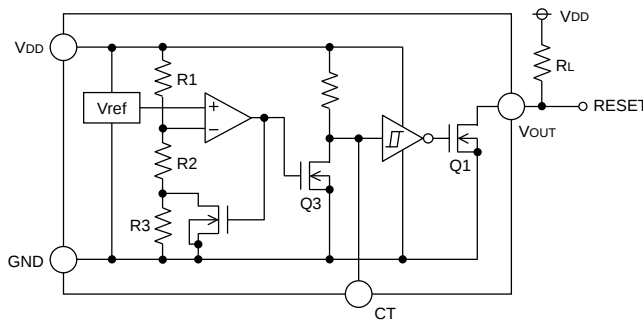
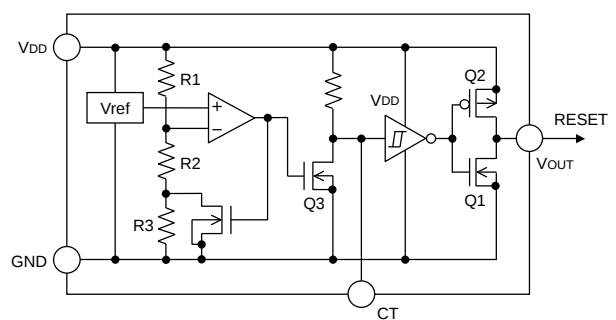

Fig.15 (BD52□□ Type Internal Block Diagram)
Fig.16 (BD53□□ Type Internal Block Diagram)
For both the open drain type (Fig.15) and the CMOS output type (Fig.16), the detection and release voltages are used as threshold voltages. When the voltage applied to the V_{DD} pins reaches the applicable threshold voltage, the V_{OUT} terminal voltage switches from either "High" to "Low" or from "Low" to "High". Because the BD52□□G/FVE series uses an open drain output type, it is possible to connect a pull-up resistor to V_{DD} or another power supply [The output "High" voltage (V_{OUT}) in this case becomes V_{DD} or the voltage of the other power supply].
Example: the following shows the relationship between the input voltage V_{DD} , the CT Terminal Voltage V_{CT} and the output voltage V_{OUT} when the input power supply voltage V_{DD} is made to sweep up and sweep down (The circuits are those in Fig.15 and 16).
Use the open drain output type (BD52□□G/FVE) attached a load resistance (RL) between the output and VDD2. (As shown Fig.15)
Use CMOS output type (BD53□□G/FVE) or open drain output type (BD52□□G/FVE) attached a load resistance (RL) between the output and VDD1. (As shown Fig.16)